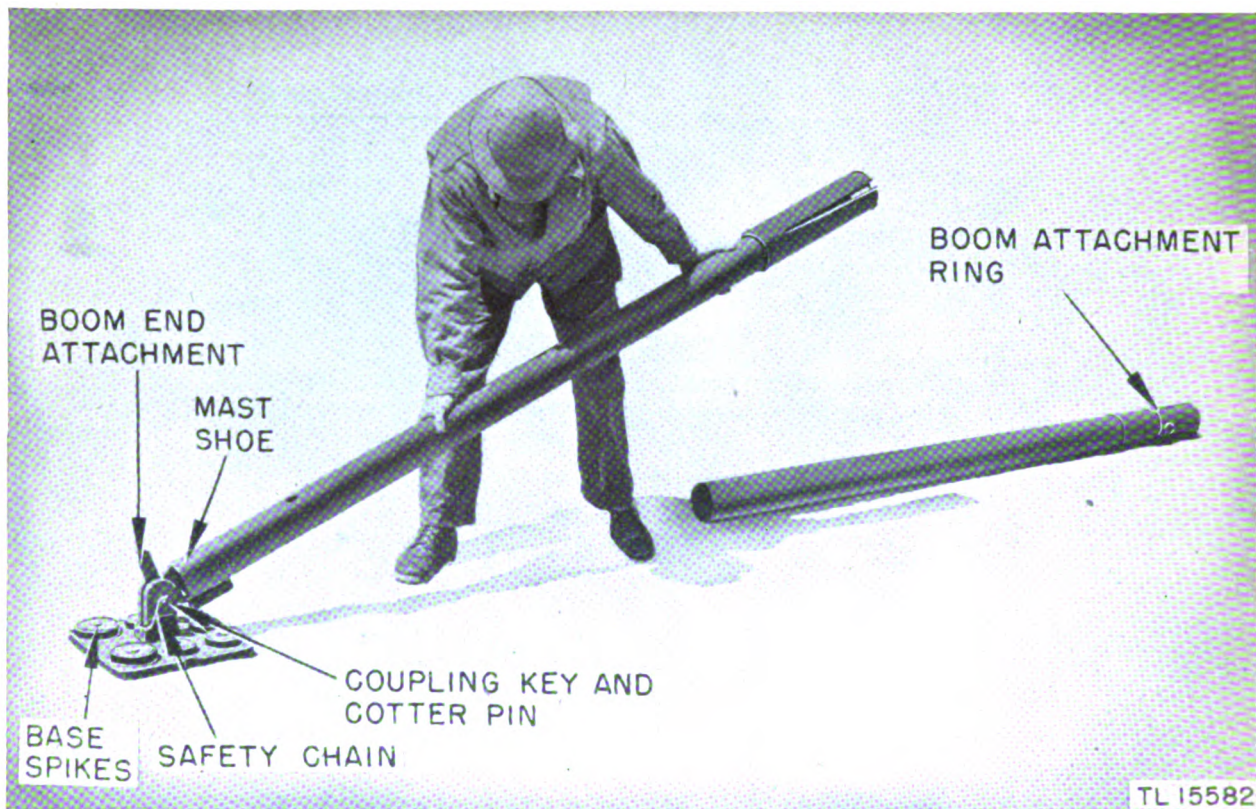
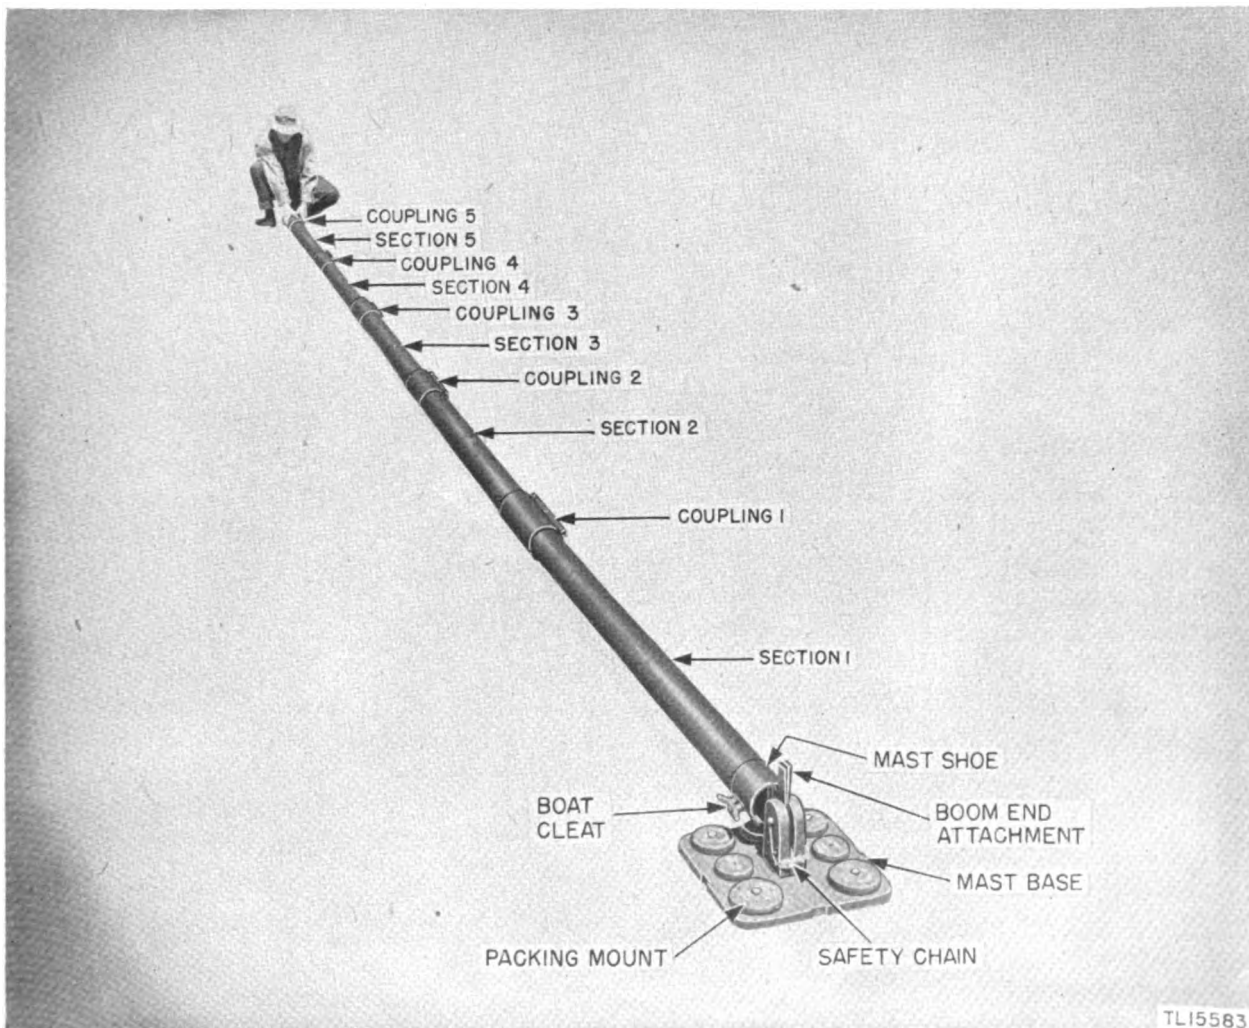
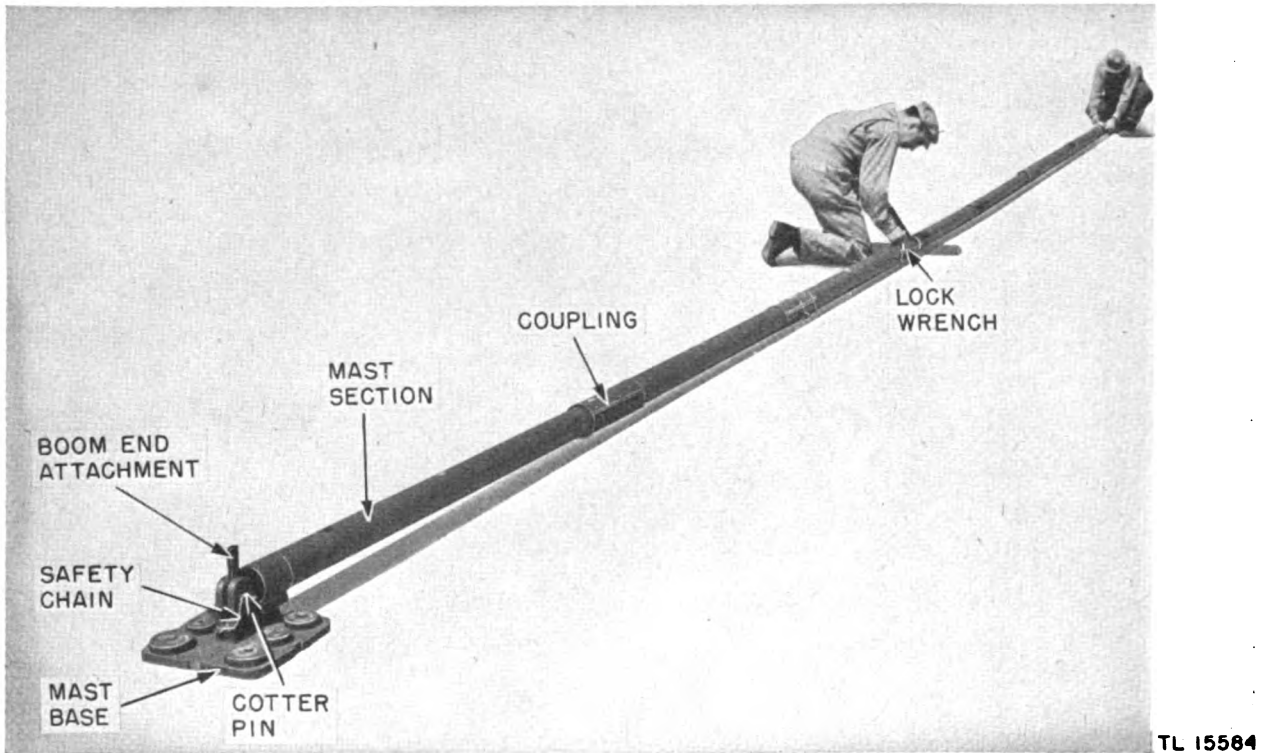

Figure 5. Preliminary installation.
Figure 6. Antenna Support AB-38/CR, section assembly.
Figure 7. Antenna Support AB-38/CR, tightening the mast sections.
- (1) Place the base plate on the ground at the point selected.
- (2) Remove stones beneath the plate and level the dirt so that the base plate sets firmly on the ground.
- (3) Remove the 8-inch spikes from the canvas bag and drive them through the four holes in the base plate.
- (4) Hook the mast shoe to the base-plate bracket. Put the peg on the end of the safety chain, through the matching holes, and insert the cotter pin (fig. 5).
- (5) Lay the eight numbered mast sections on the ground in a straight line and *in numerical sequence*, with section number 1 closest to the base (fig. 6), with *all numbers facing up*.
- (6) Insert section one into the mast shoe, section two into section one, section three into section two, etc. Insert each section to the spacer stop, which is located between each section coupling.
- (7) Tighten all screws at all couplings with the socket wrenches supplied with the equipment (fig. 7).
(2) Remove stones beneath the plate and level the dirt so that the base plate sets firmly on the ground.
(3) Remove the 8-inch spikes from the canvas bag and drive them through the four holes in the base plate.
(4) Hook the mast shoe to the base-plate bracket. Put the peg on the end of the safety chain, through the matching holes, and insert the cotter pin (fig. 5).
(5) Lay numbered section one through four on the ground in a straight line and *in numerical sequence*, with section one closest to the base, with *all numbers facing up*.
(6) Loosen the screws and remove the coupling from the top of section 4.
(7) Insert section one into the mast shoe, section two into section one, section three into section two, etc. Insert each section to the spacer stop, which is located between each section coupling.
(8) Tighten all screws at all couplings with the socket wrenches supplied with the equipment (fig. 7).